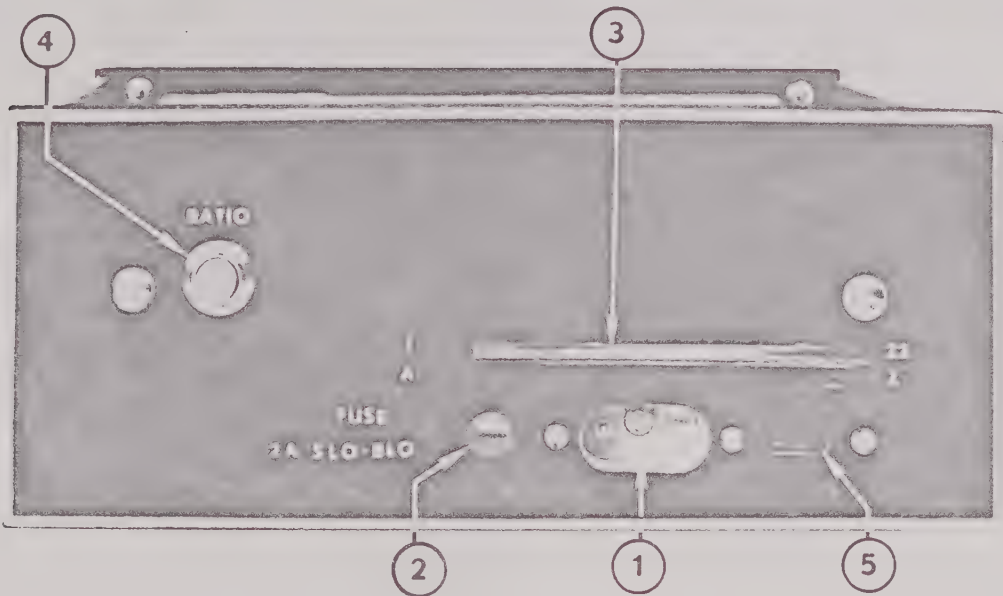

Figure 2-2. MODEL 2500 DMM Rear Panel Controls and Indicators
1. Press RATIO push button at Rear Panel (Figure 2-2). Observe corresponding lamp lighted on front panel.